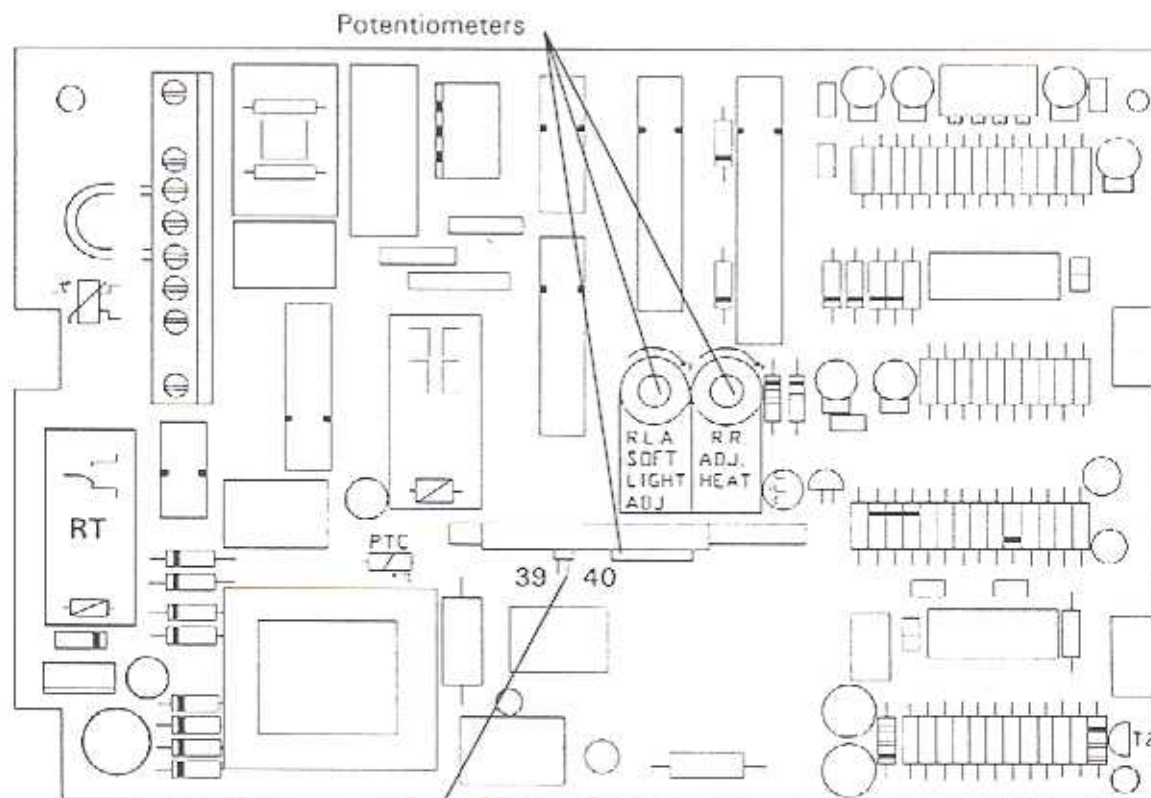

Fig.45
- 8.24.5 Connect a frequency meter to electrical connection pin no's 39&40 on the modulation printed circuit board (Fig.45).
- 8.24.8 Turn all three potentiometers on the circuit board fully clockwise (marked RMV, SOFT LIGHT and ADJ HEAT Fig.45) and check that the pressure difference on the pressure differential gauge is reading more than 4.1 mbar. (A reading of less than 4.1 mbar suggests that there may be an installation fault within the flue system, or the primary water temperature is too high).
SEE PAGE 30 FIG.45